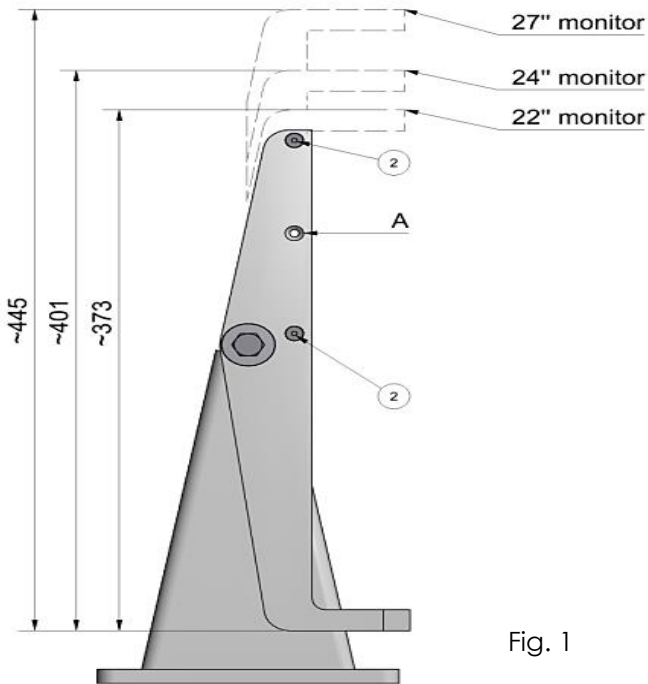

Fig. 1
1. Untie and remove the two screws on each side of the bracket (position ② fig.1)
3. Refit and fasten the screws again. For DuraMON 27" only, use two extra screws (bracket kit, item no. 2) for position A(fig. 1)